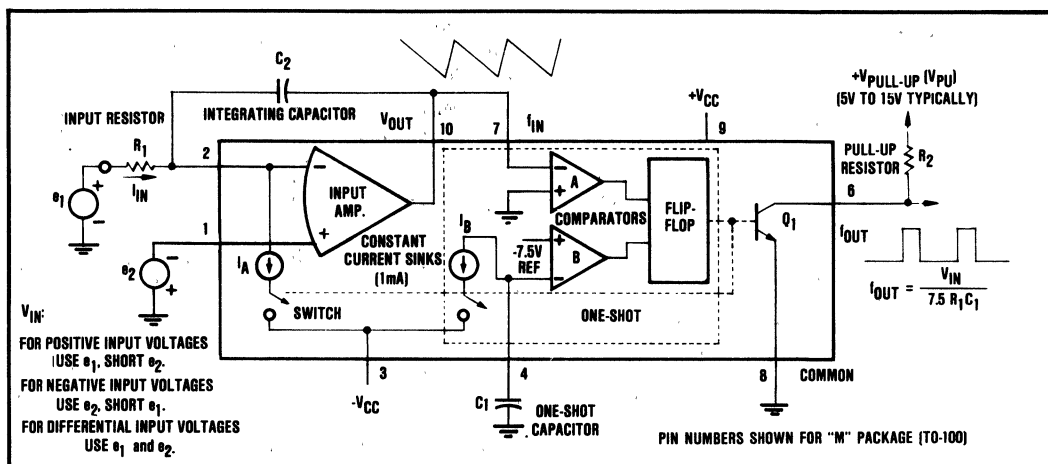
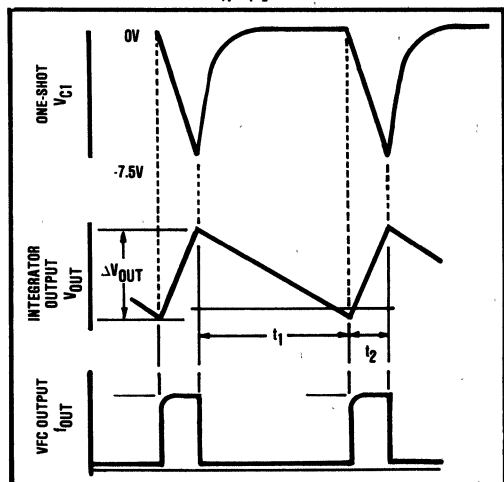

FIGURE 4. Functional Block Diagram of the VFC320.
FIGURE 5. Integrator and VFC Output Timing.
The VFC320 monolithic voltage-to-frequency converter provides a digital pulse train output whose repetition rate is directly proportional to the analog input voltage. The circuit shown in Figure 4 is composed of an input amplifier, two comparators and a flip-flop (forming a one-shot), two switched current sinks, and an open collector output transistor stage. Essentially the input amplifier acts as an integrator that produces a two-part ramp. The first part is a function of the input voltage, and the second part is dependent on the input voltage and current sink. When a positive input voltage is applied at V_{IN} , a current will flow through the input resistor, causing the voltage at V_{OUT1} to ramp down toward zero, according to $dV/dt = V_{IN}/R_1C_1$. During this time the constant current sink is disabled by the switch. Note, this period is only dependent on V_{IN} and the integrating components.
the circuit shown in Figure 4. Detailed waveforms are shown in Figure 5.
In general the design sequence consists of: (1) choosing f_{MAX} , (2) choosing the duty cycle at full scale ($D_{FS} = 0.25$ typically), (3) determining the input resistor, R_1 (Figure 4), (4) calculating the one-shot capacitor, C_1 , (5) selecting the integrator capacitor C_2 , and (6) selecting the output pull-up resistor, R_2 .